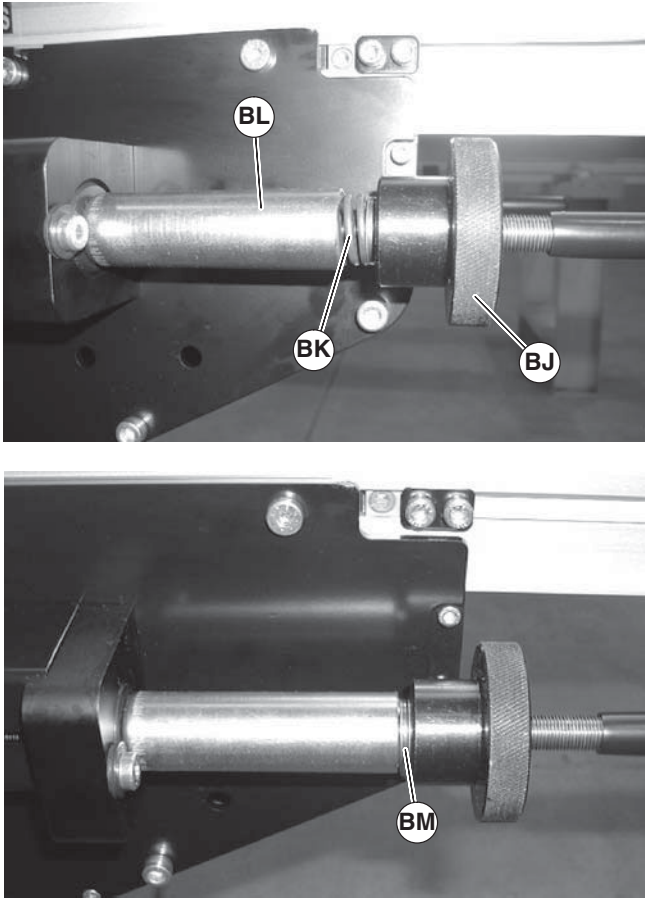

Figure 36
1. Turn knurled knob (Figure 36, item BJ) on each side of center drive unit clockwise until tensioning spring (BK) is completely behind spring cover (BL). There should be approximately 1/8" gap () between hand knob (BM) and spring cover (BL).
2. As normal belt stretch occurs over time, the spring (Figure 36, item BK) will be exposed out of the spring cover (BL). When the spring is exposed over 1/2" or if conveyor belt slippage occurs, retighten knurled hand knob (BJ) on each side of center drive unit clockwise until tensioning spring is completely behind spring cover.